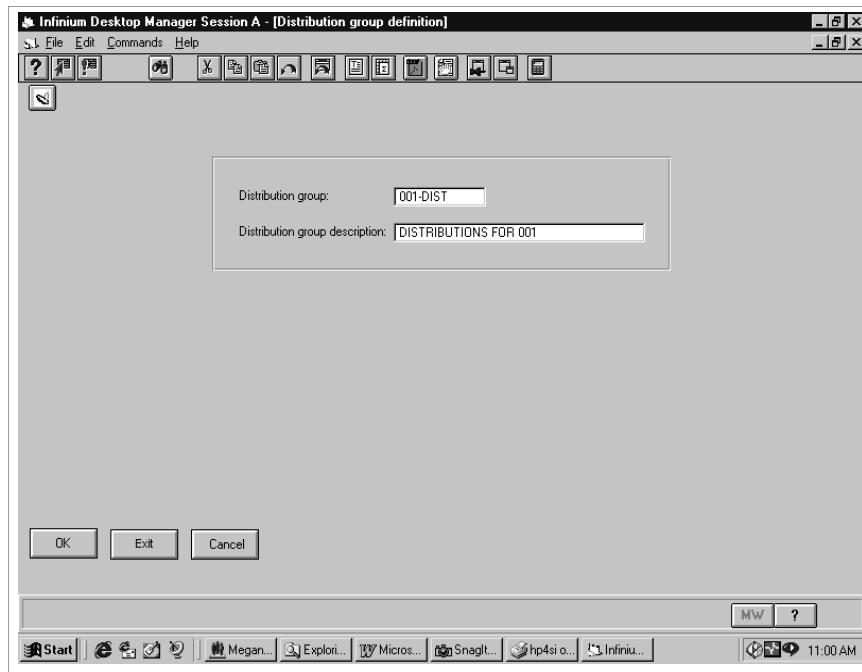

Figure 3-21: Distribution group definition creation screen
- 3 You can press F6 to create a distribution group. You can also select an existing distribution group and select **Change** or type 2 and press Enter. The system displays the screen shown in Figure 3-21 if you press F6.